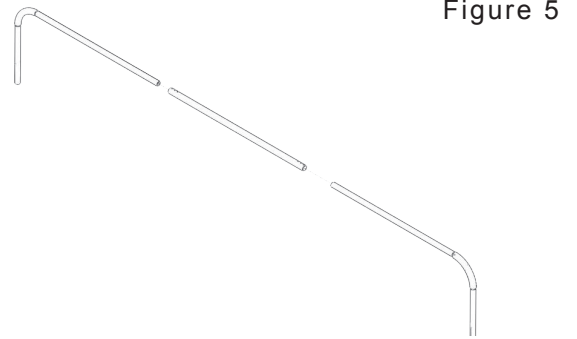

Figure 5
6 Insert the long arms of the **Support Arms (B)** into the ends of the **Center Coupler (C)** as shown in *Figure 5*.